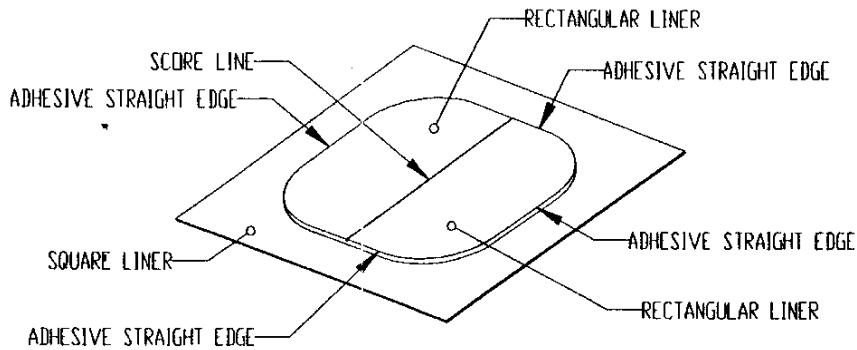
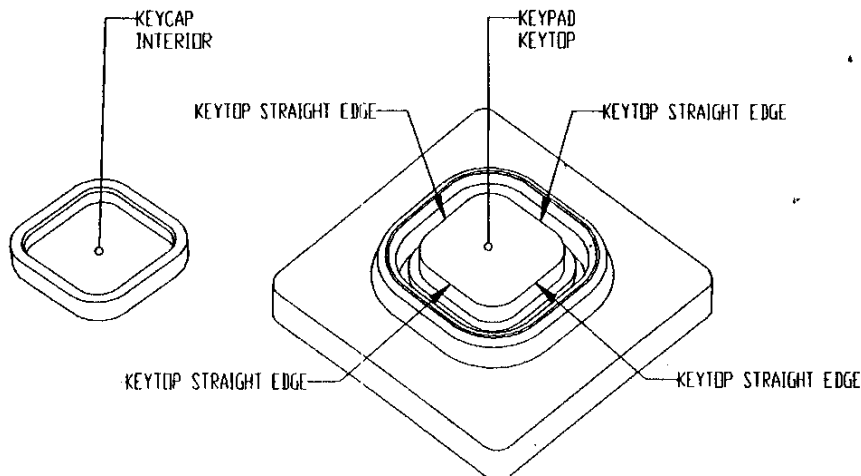

Figure 1
Figure 2
Beside adhesive, each keycap adhesive tape also has a score line, two rectangular liners and a square liner as shown in Figure 1. Ideal tape application temperature is 70 °F to 100 °F (21 °C to 38 °C). The adhesive should be stored in a sealed bag at 70 °F (21 °C) and 50 % relative humidity to maximize the shelf life.
2. To obtain optimum adhesion, the keycap interior and keytop surfaces shown in Figure 2 must be clean and dry. Typical surface cleaning solvent is isopropyl alcohol/water mixture (rubbing alcohol). Be sure to follow solvent manufacturer's direction for using the solvent.
4. To apply the adhesive on a square keytop, align two adhesive straight edges shown in Figure 1 with two square keytop straight edges shown in Figure 2. Since the rectangular keytop requires two adhesives, apply the first adhesive on one side of the rectangular keytop by aligning two straight adhesive edges with a short and a long rectangular keytop edges.